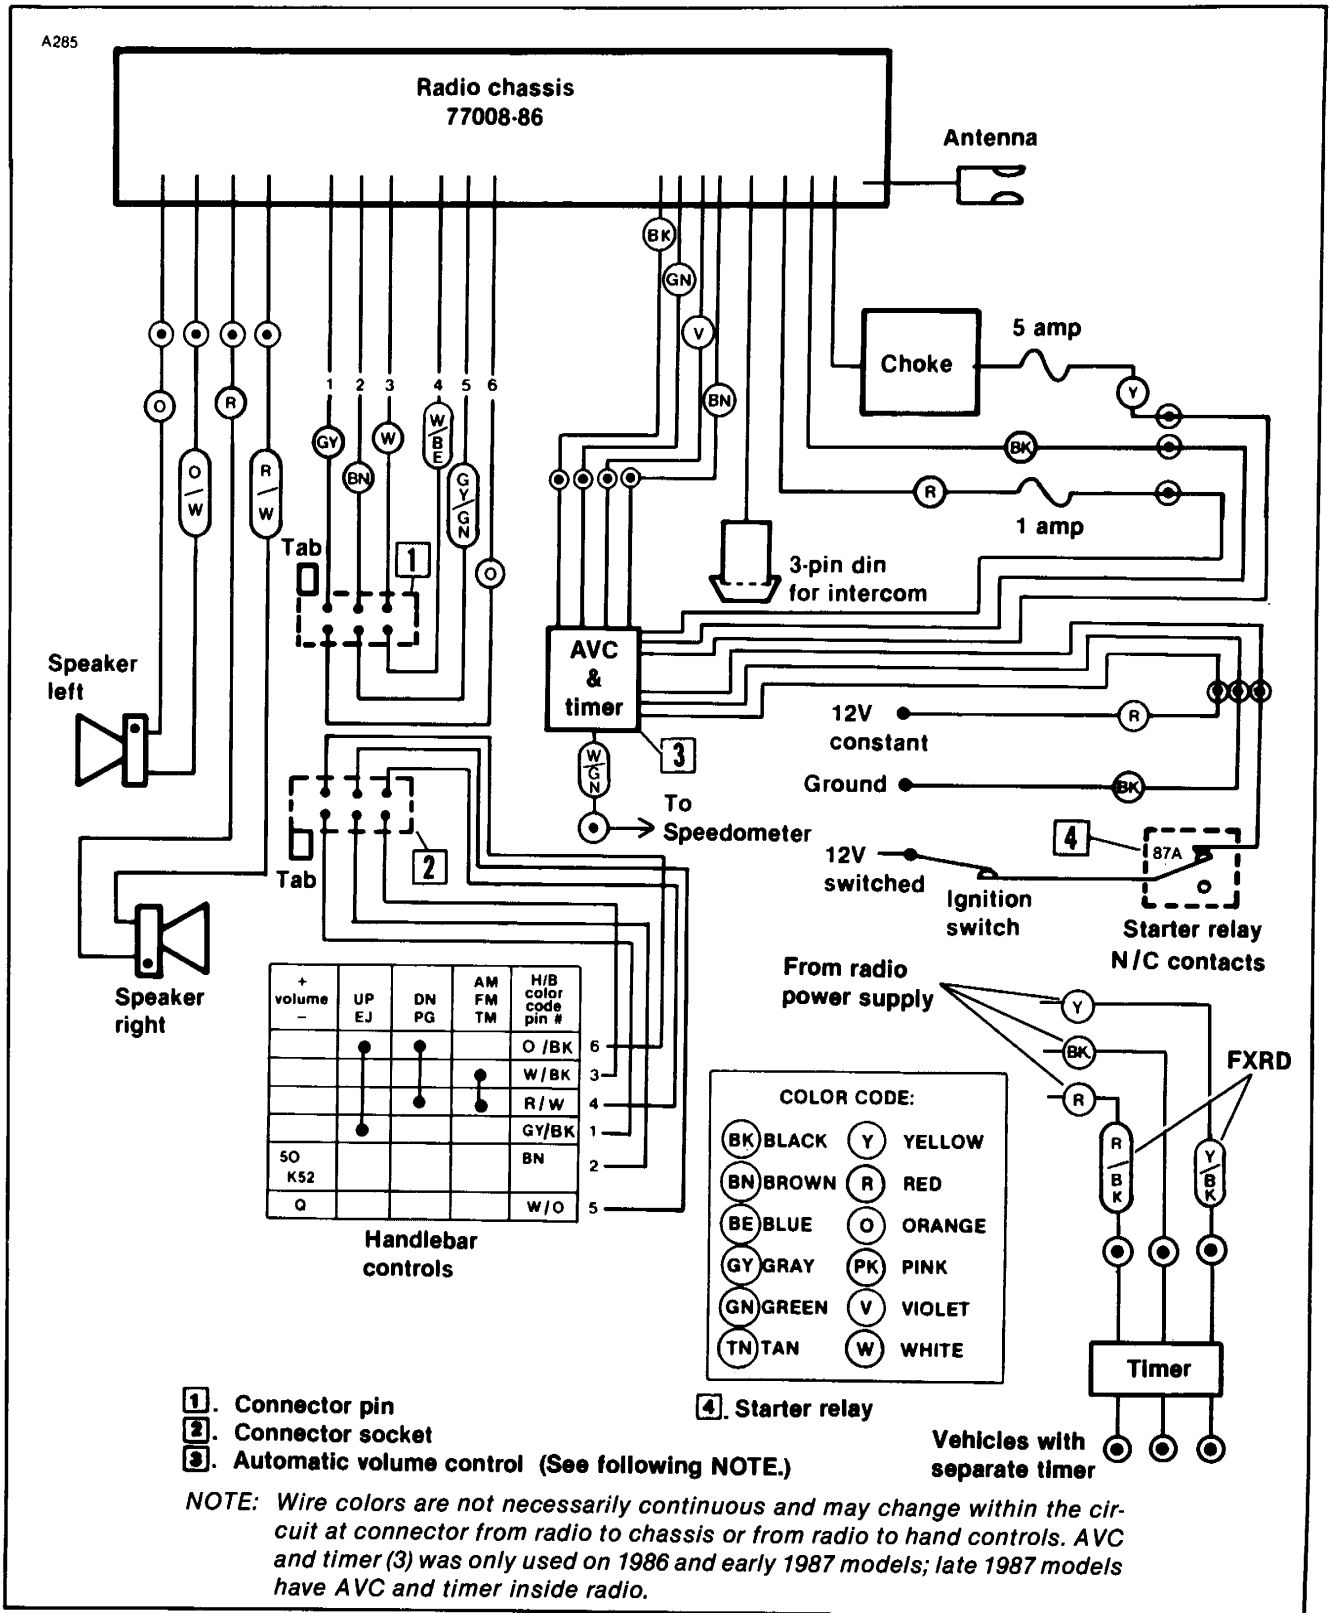

Figure 2-120. Wiring Diagram
Refer to Figure 2-120. The circuit from radio to function switch, through pin one, if grounded will start and stop radio. To isolate problem, disconnect connector halves (1) and (2).
Refer to Figure 2-120. Circuit from radio to volume control, through pin five, if grounded will kill volume. To isolate problem, disconnect connector (1) and (2).
1. Refer to Figure 2-120. Disconnect connector halves (1) and (2).
Refer to Figure 2-120. Disconnect connector halves (1) and (2). Connect voltmeter black lead to vehicle ground. Touch each pin of pin connector (2) with red probe and watch for an indication of voltage on meter. There should be no voltage present at any of the pins. If a voltage is present, this is an indication of current flow into the radio control circuit from source other than radio chassis.